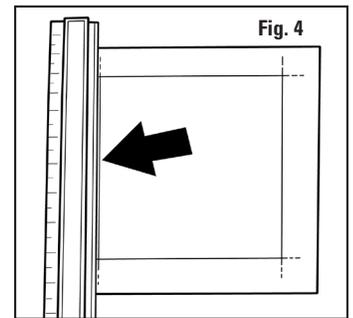
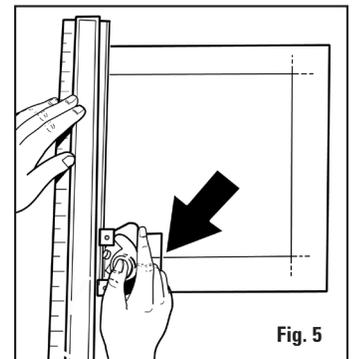

Fig. 4
Fig. 5
**2.** Place the mat face down on the Slip Sheet. Place the Straight Edge EXACTLY on the left hand border so that the outside edge of the channel is lined up along the pencil line. **Fig. 4** Make sure that the bulk of the mat is to the right hand side of the Straight Edge. Having the mat on the left side of the Straight Edge will result in a reversed bevel cut. Attach the 302 Bevel Cutter to the straight edge by fitting the black nylon guides over the raised edge of the channel. Position the Mat Cutter so that the silver indicator line lines up with the bottom intersecting pencil line. **Fig. 5**